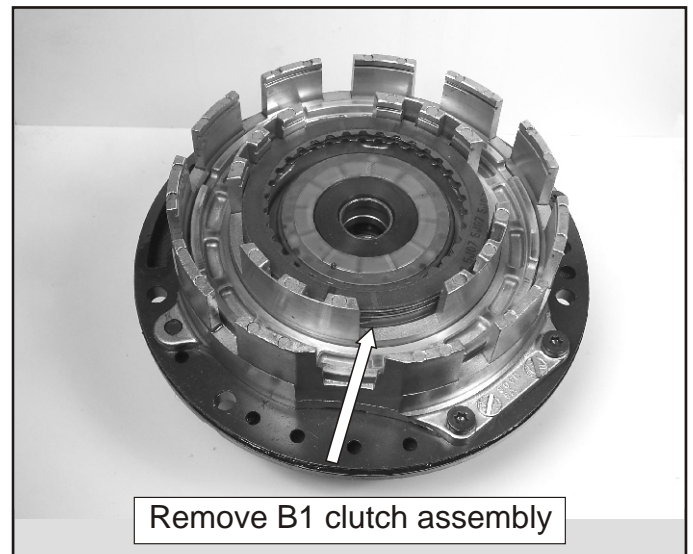

Figure 101
50. Remove the remaining B1 clutch assembly as shown in Figure 101.